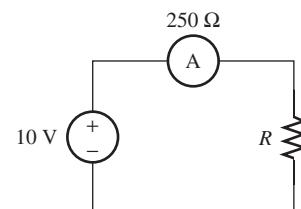

FIGURE P14.4 Circuit for Problem 14.4.
- 14.4 (H)** The ammeter with a 250Ω resistance in Figure P14.4 reads a minimum current at 17.7 mA and a maximum current at 18.7 mA with a voltage source of 10 V.